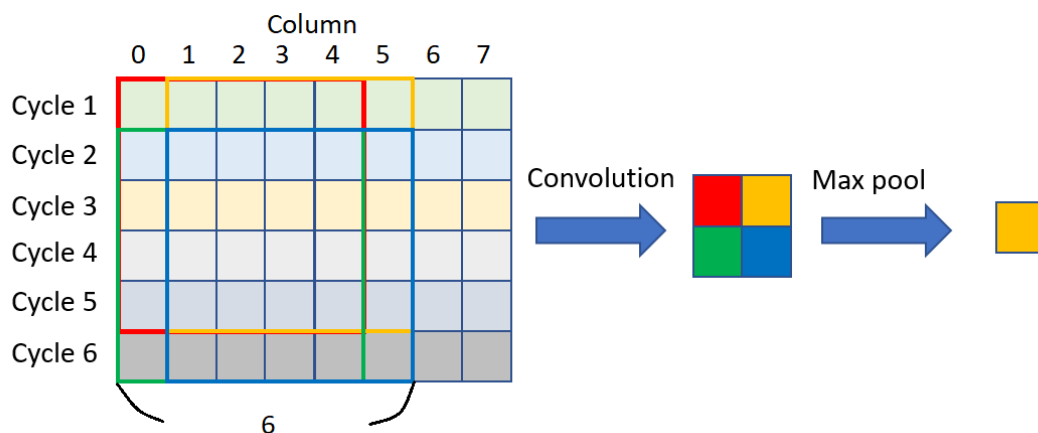

Figure 4: Data reuse for convolution operations.
3. Figure 4 illustrates possible data reuse in convolution operations and max-pooling in CONV1 and CONV2. Typically, four 5x5 convolution operations generate 2x2 activations. The following max pool operation produces one result (see Figure 4). You may consider loading 6x6 ifmaps to improve the data reusability. Note that the dual-port SRAM allows you to load two 32-bit words (i.e., eight 8-bit ifmaps) at the same time. So it is possible to process Columns 2 to 7 while dealing with Columns 0 to 5 for further improvement.